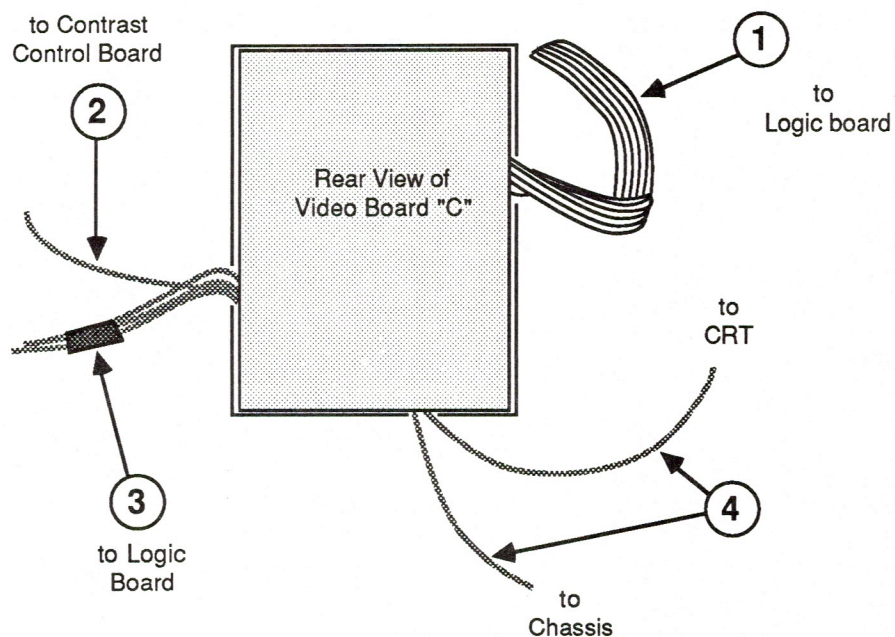

FIGURE 14
3. Reconnect the two black wires from the bottom of the video board "C" at their midpoint connectors (Figure 14, #4). The short wire goes to the chassis and the long wire goes to the CRT.
- D-2, from the left side of the logic board (Figure 14, #3).
- D-7, from the right side of the logic board (Figure 14, #1).
5. Plug the two-pin connector (Figure 14, #2) into the contrast control board at location V-5.